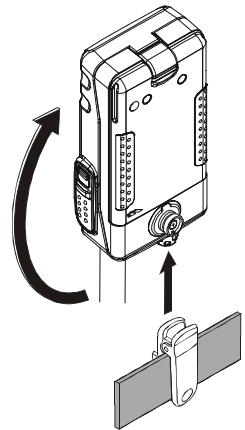

Figure 4
- ❑ To remove the **VX-170** from the Quick-Draw Belt Clip, rotate the **VX-170** 180 degrees, then slide the **VX-170** out from the Quick-Draw Belt Clip (Figure 4).